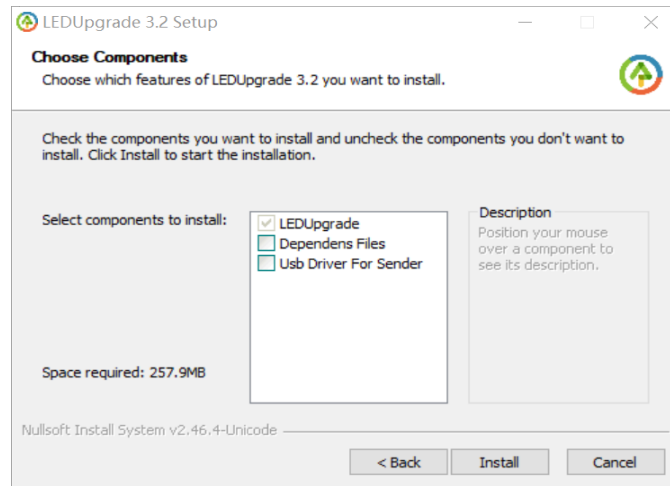

Fig. 2-3 Choose Components
3) Choose components according to actual requirements (If this is the first time to install, we suggest check all) and then click on [Install] (as shown in Fig.2-3);